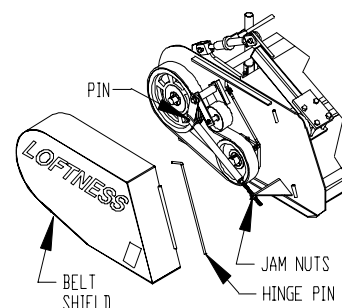

Figure 6
1. Unlatch belt shield, remove hinge pin and belt shield. This will expose the belt drive (figure 6).
2. Loosen jam nuts on the belt tightener (figure 6) which will release the tension from the belt.